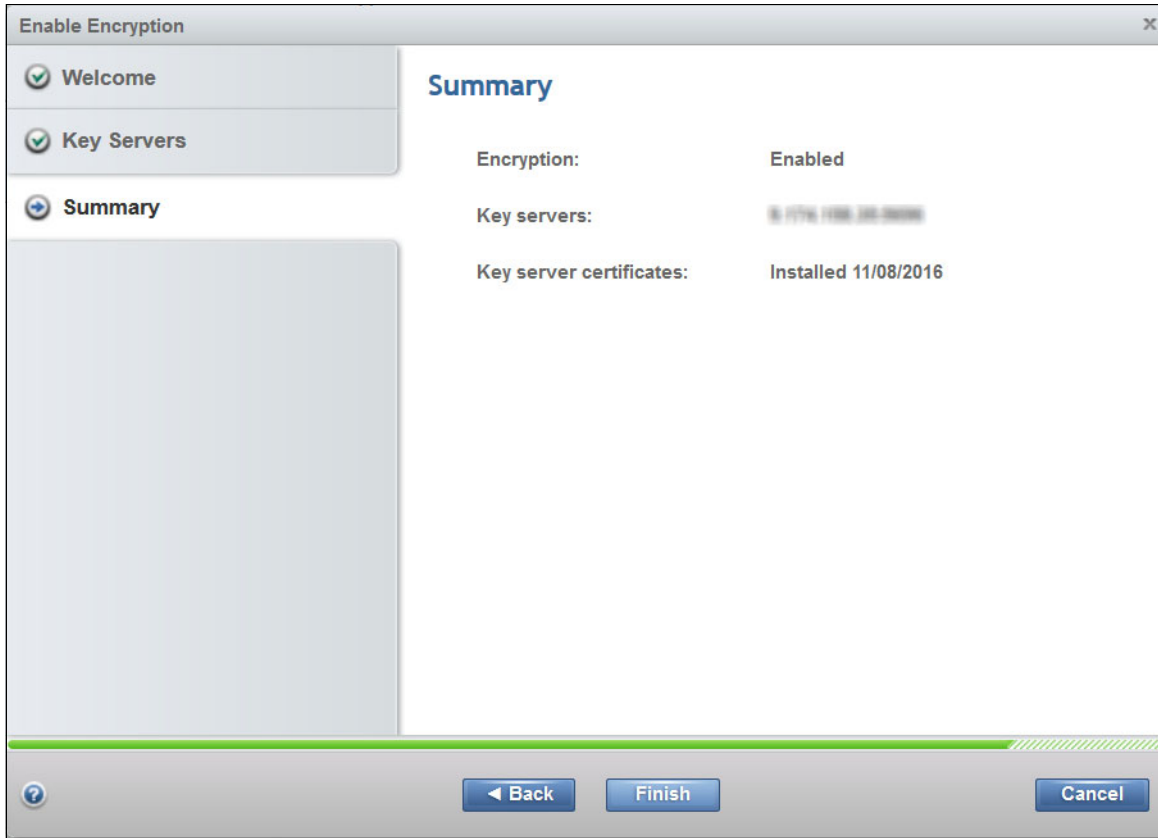

Figure 9-69 Summary of changes
5. Review the summary of changes and click **Finish** to encrypt the data with the key server certificate (Figure 9-69).